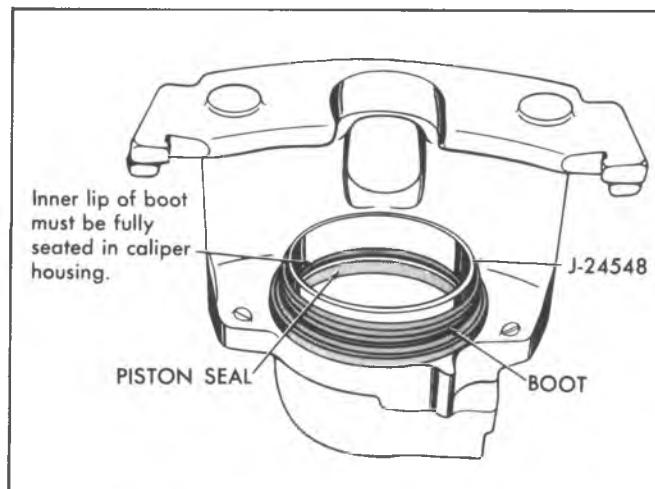

Fig. 5-41-Installing Caliper Piston Boot
2. Lubricate both sealing lips of the dust boot and the piston with a light film of clean brake fluid. Place the new boot over Piston Installer Tool J-24548. This is most easily accomplished by placing the boot large diameter over the tool first, then riding the smaller diameter onto the tool. The large diameter lip must then be slid off the tool to make ready for installation into the bore groove. Install the boot (large bead) into the piston bore groove by reaching inside of Tool J-24548 and pressing the boot bead into the groove (fig. 5-41).